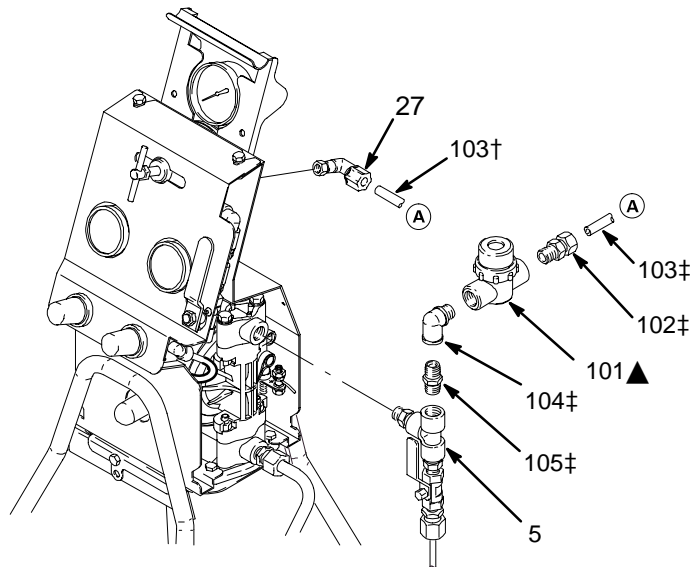

Fig. 3
The Fluid Filter Kit, listed above, can be installed to filter fluid drawn by the suction tube after it comes out of the pump. Install the Fluid Filter Kit as follows (see Fig. 3):
1. Apply thread sealant (specified in Fig. 3) to all male threads in this kit.
2. Remove the male connector (6) and the PTFE tube (18) that connect to the top of the tee (5). See the **Parts** drawing on page .
3. Thread the nipple (105) into the female threads of the elbow (104).
4. Thread the nipple (105), with the elbow (104) attached to it, into the tee (5).
5. Thread the fluid filter (101) onto the male threads of the elbow (104).
6. Thread the male connector (102) into the fluid filter (101).
7. Turn the fluid filter/male connector assembly towards the elbow (27). This makes connecting the tube (103) in step 8 easier.
8. Cut the PTFE tube (103) to the proper length, and install it to run from the male connector (102) to the elbow (27).